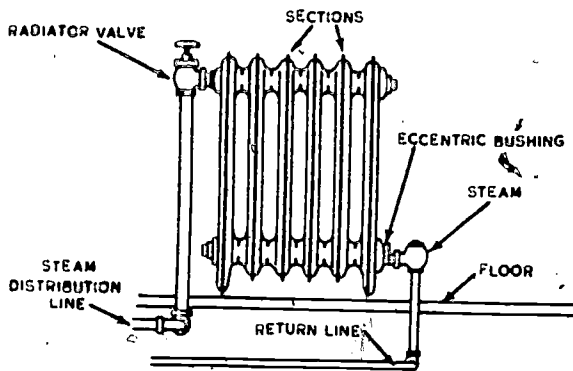

Figure 53. A typical cast-iron radiator.
2. **Radiators.** Steam radiators are normally classified into two categories. One is the fin-tube radiator which consists of a metal tube that has metal fins attached on the outside to increase its total heating surface. The fin-tube radiator generally has a valve at one end and a trap at the other end. This radiator has been used more extensively in the past 15 years. It is readily adaptable to areas where floor space is limited, since the radiator is normally mounted on the walls. The second category is the cast-iron radiator which is made in sections. A typical cast-iron radiator is illustrated in figure 53. These cast-iron radiators are similar to those used in hot-water heating systems.
4. The radiators in a two-pipe steam distribution system are connected to the boiler by means of a distribution pipe as well as by a condensate return pipe. Since the steam and condensate in this system flow in separate pipes, the pipes are smaller than those required for the same size radiator in a one-pipe system. The radiator outlet is usually equipped with a steam trap, as shown in figure 53, which prevents steam from leaving the radiator until it condenses into water.